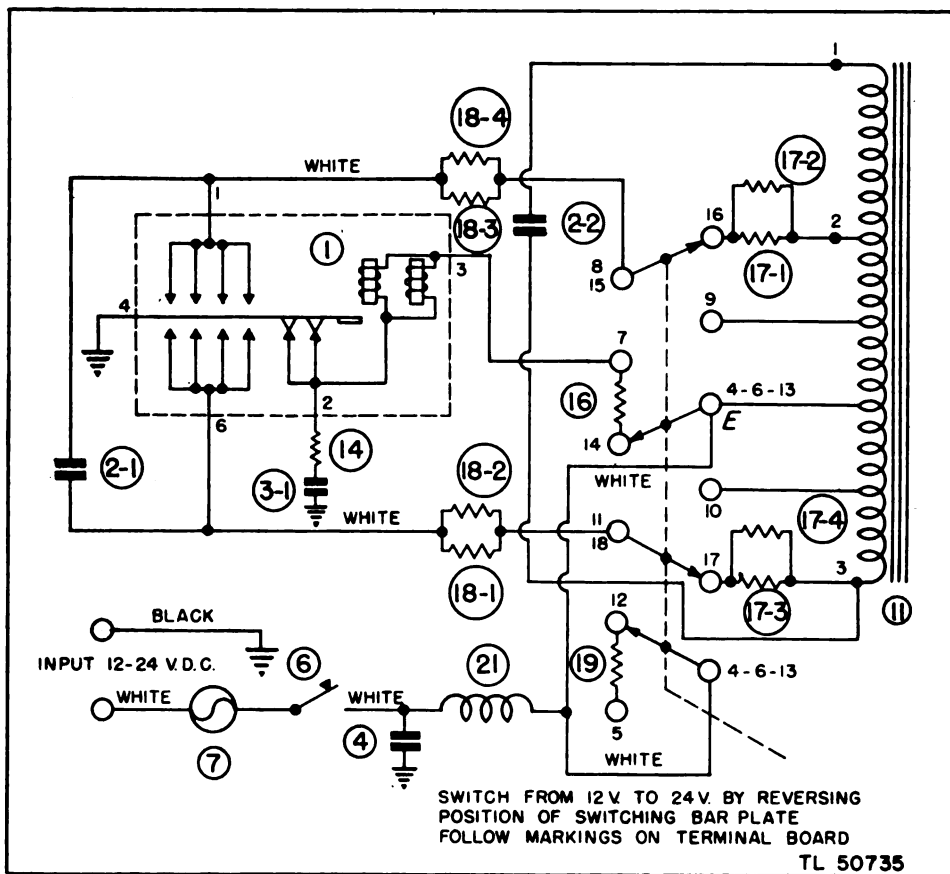

Figure 17. Input circuit, Voltage Converter PP-50/VVX-1X.
a. *Input Circuit (fig. 17).* (1) When the ON-OFF switch (6) is thrown to ON, current flows through the fuse (7), the ON-OFF switch, and the RF choke (21) to the switching panel where it flows to tap E on the transformer. In the 24-volt mode of operation, the current flows from tap E through a 10-ohm, 10-watt resistor (16) to the actuating coil of the vibrator (pin No. 3 on the vibrator socket). In the 12-volt mode of operation, the 10-ohm, 10-watt resistor (16) is omitted from the vibrator coil circuit and current flows directly from tap E to the actuating coil of the vibrator. The vibrator side reeds (pins No. 1 and No. 6 on the vibrator socket) are connected through two pairs of parallel 0.25-ohm, 10-watt resistors (18-1), (18-2), (18-3), and (18-4) to the switching plate. From the switching plate connection is made to either the 12-volt primary connections (terminals 9 and 10) or to the 24-volt primary connections